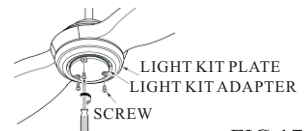

FIG.17
5. Tighten the light kit by using the 3 screws removed in step 4 (see Fig.17)